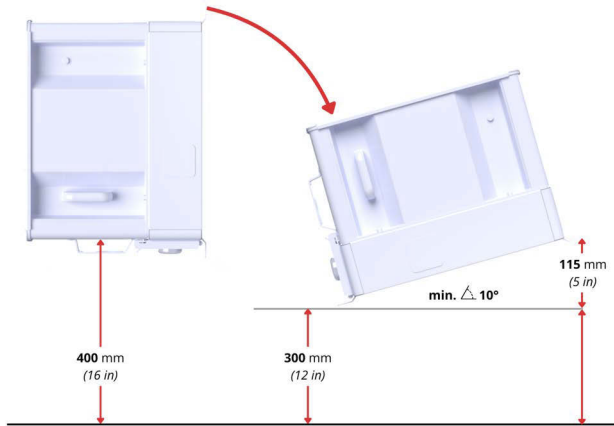

Fig. 6: Vertical and horizontal installation
- a) Maintain a distance in the connection area of at least 300 mm from the floor (see Fig. 6).